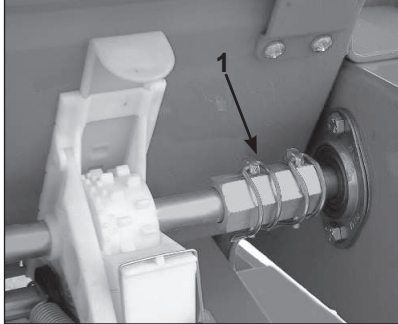

Fig 12
Therefore it is recommended that when sowing small seeds, especially oil seeds and thin shelled seeds, the drive to the agitator is disconnected. To do this remove the lynch pin (1) (Fig 12).